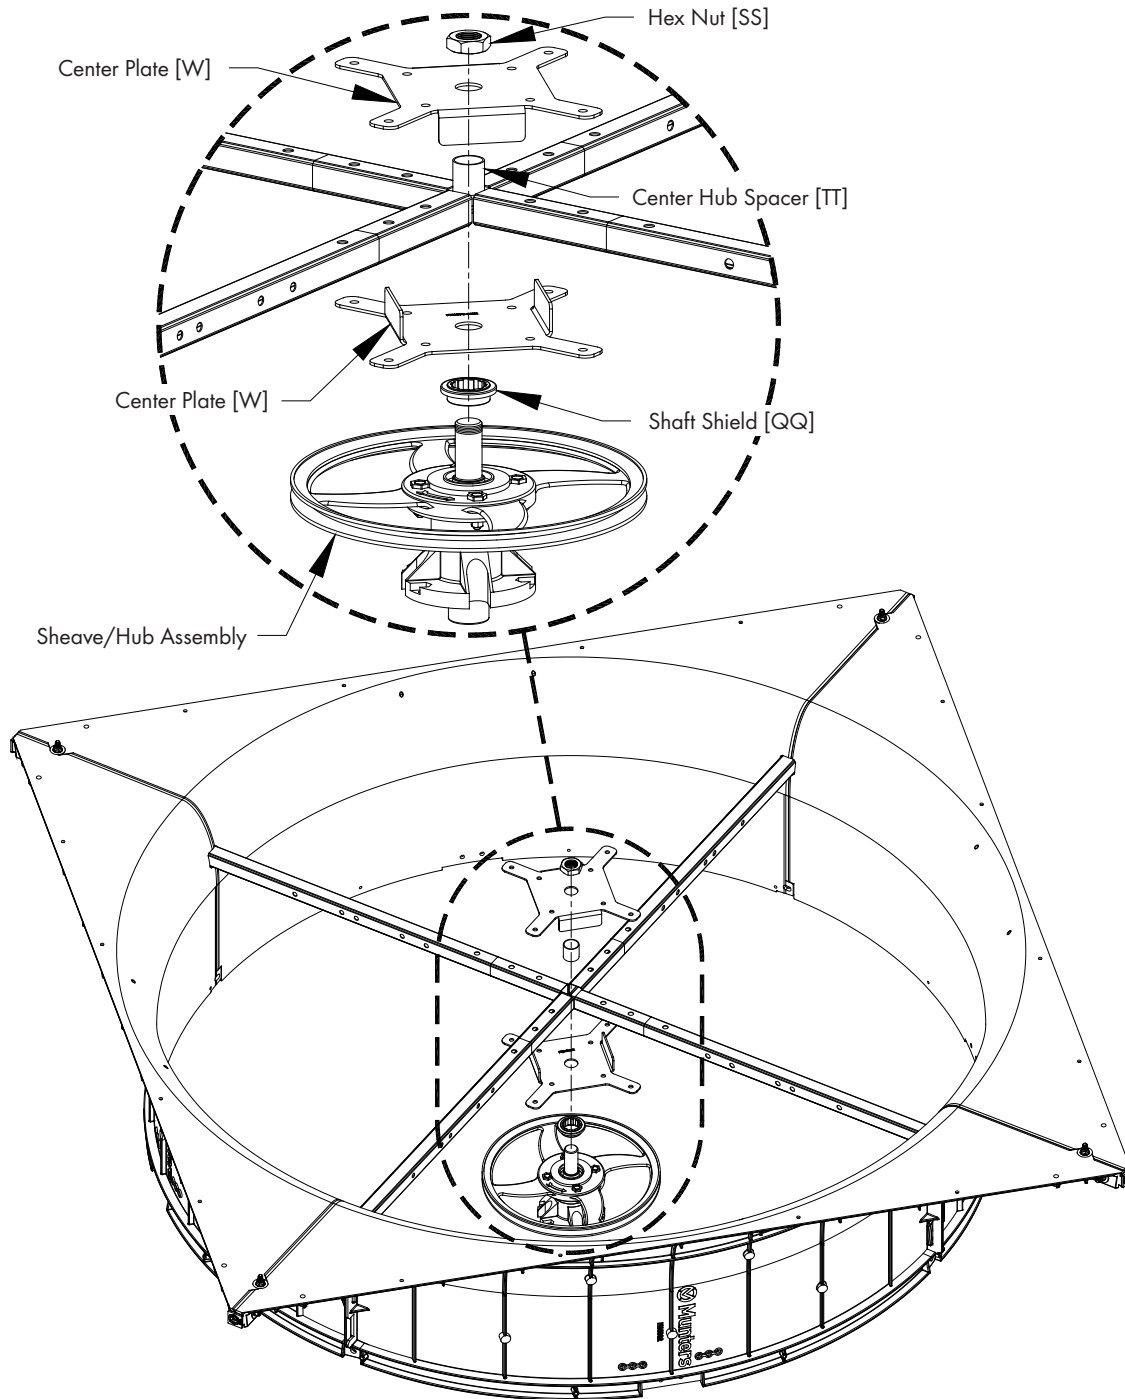

Figure 6
Slide Shaft Shield [QQ] over Hub Shaft as shown in Figure 6. Secure Sheave/Hub Assembly to the (4) Struts using (1) Hex Nut [SS] making sure there is a Center Plate [W] on each side of the Struts and the Center Hub Spacer [TT] over the Hub Shaft and between the Center Plates and Struts. Hex Nut [SS] should be tightened to 52 ft-lbs [70 N-m] torque. See Figure 6. The Sheave/Hub Assembly should protrude down into the center of the Orifice Panel and the Hex Nut should be on the flat side of the Orifice Panel.